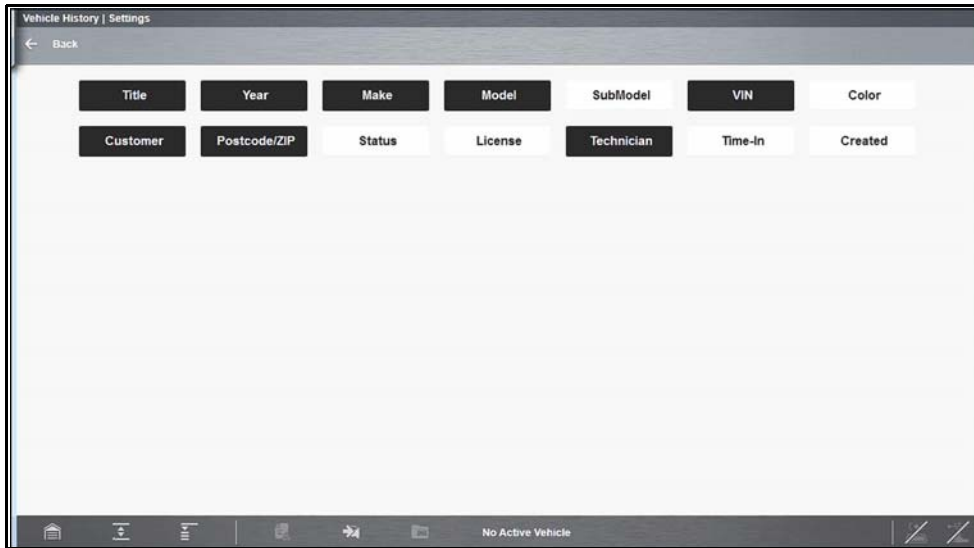

Figure 10-4
1. Select **Settings** to open the menu (Figure 10-4).